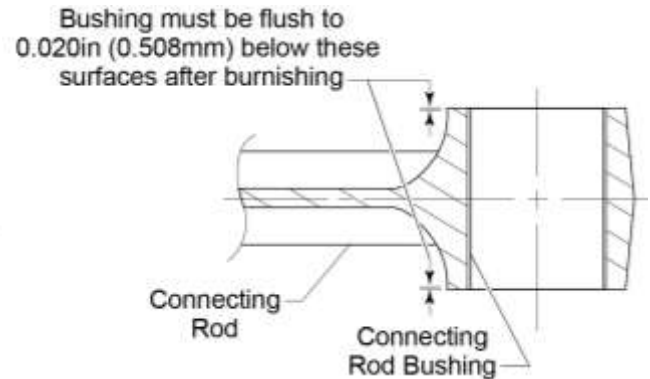

Figure 28
- G. Examine the bushing after installation to make sure the bushing is flush to 0.020 in. (0.508 mm) below the connecting rod surface (Figure 28) on both sides of the connecting rod.